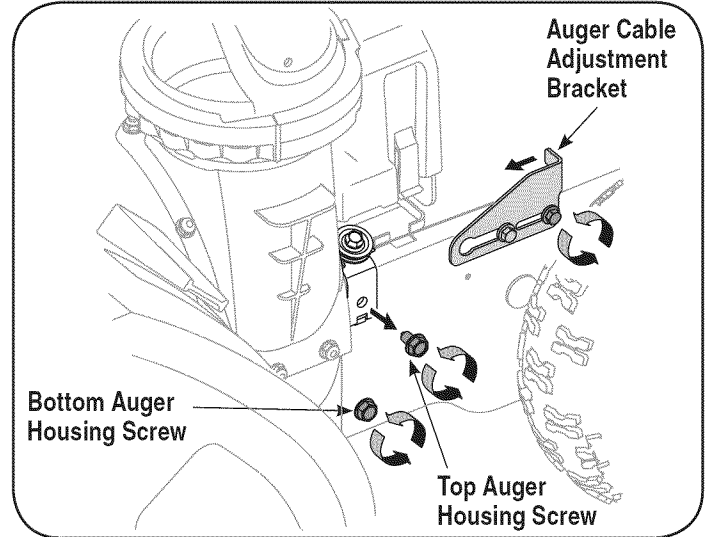

Figure 20
1. Loosen the rear hex bolt on the cable adjustment bracket. See Figure 20.